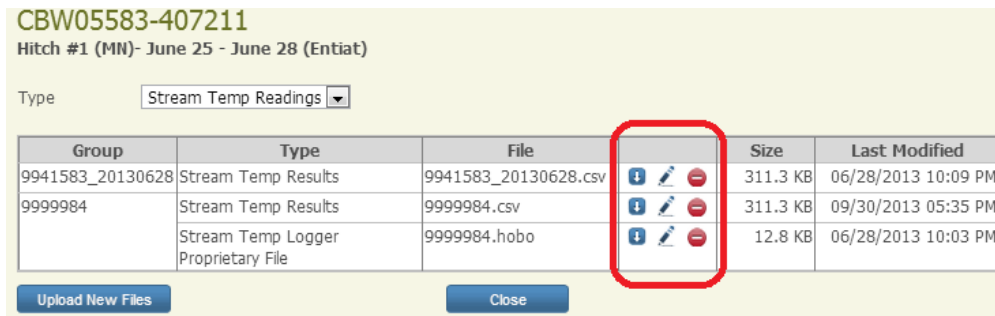

Figure 6. Display of uploaded files list and file management options (circled in red)
7. If files were previously upload, they will be listed in the dialog box (Figure 6)